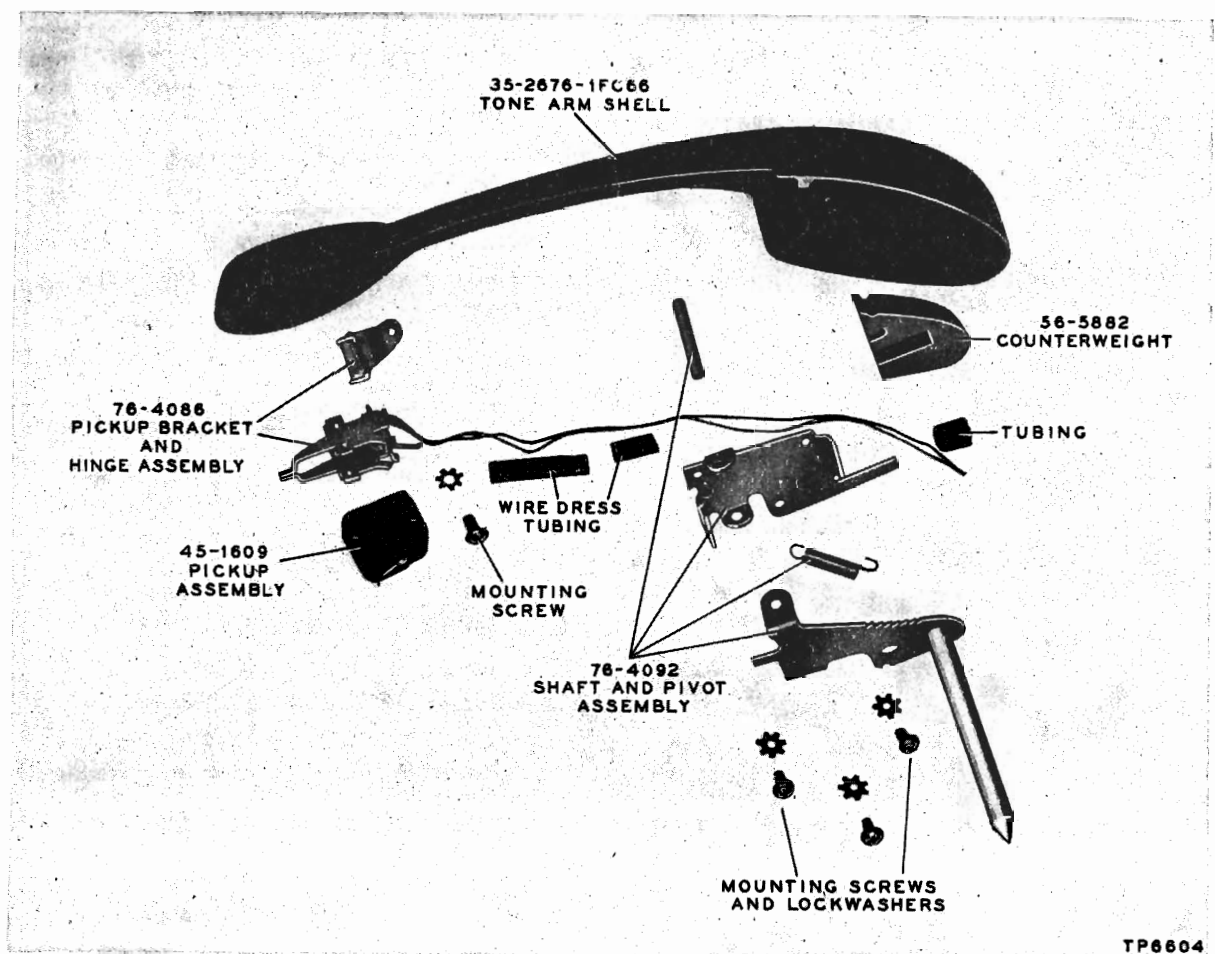

Figure 10
3. Lift out tone arm. Be careful not to lose fiber spacer on tone-arm shaft. Refer to figure 10 for correct assembly of tone arm.